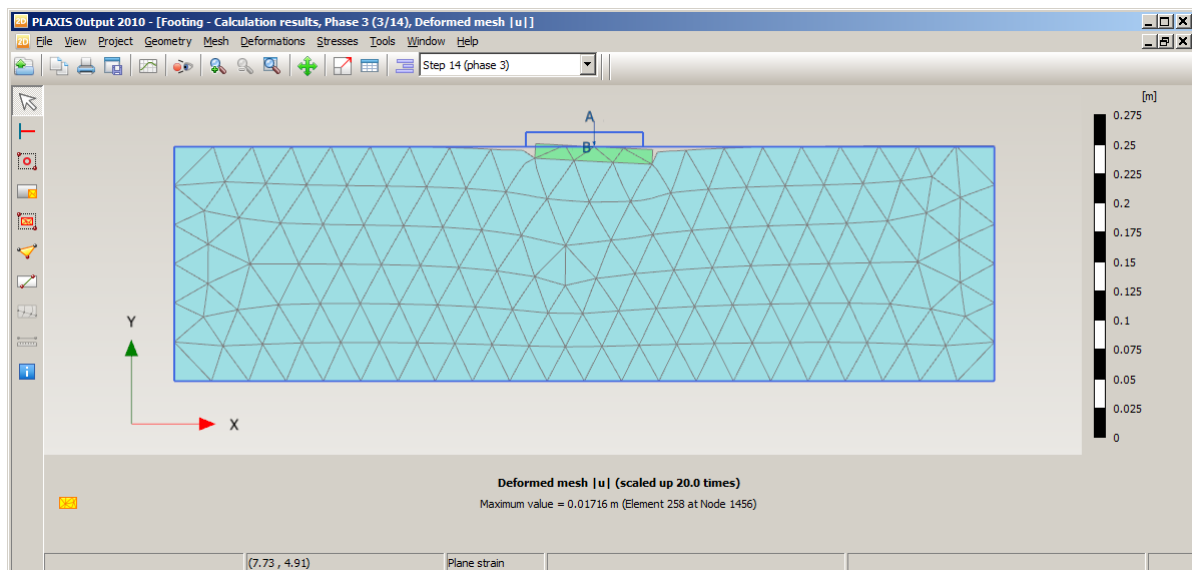

Figure 17: Deformed mesh at the end of phase 3
- While phase 3 is highlighted, press the *View calculation results* button  that will start the output program, showing the deformed mesh for the situation with both horizontal and vertical load applied, as presented in figure 17.